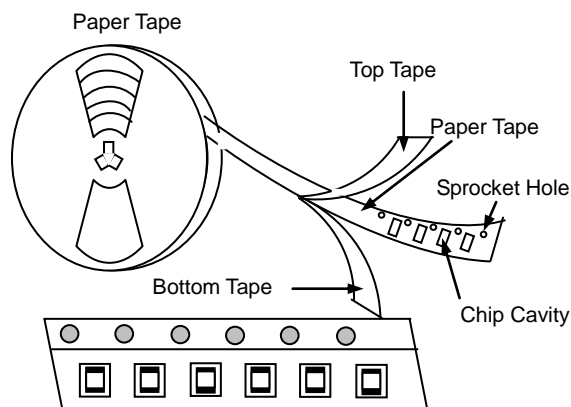

Fig. 6.1-1
- Tape carrier packaging are specified in attached figure **Fig. 6.1-1~3**